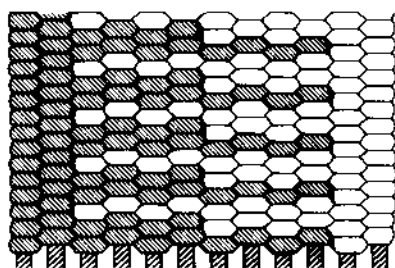

FIGURE 6. Hachure
(8) **HACHURE** is using several passes of each color to create a gradual transition, a shading and/or another color. See Figs. 6, 7, and 8 for three of the many possible ways of using hachures. When used very long (i.e. over twelve or more warp threads) hachures create extremely subtle changes. Hatching and hachures are the techniques unique to tapestry weaving and, from a design point of view, they separate the tapestry design from any design suitable for printing.